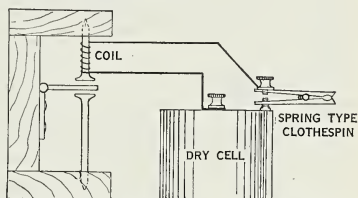

Fig. 311. A homemade telegraph instrument.
*How to make a telegraph instrument.* Arrange the apparatus as shown in the diagram. The sounder is a hinge. If it is not free enough to fall easily, tack a rubber band to the bottom board and carry it over the free end of the hinge. To make a dot, push down the key and release it immediately. To make a dash, hold down the key for a moment (Fig. 311).